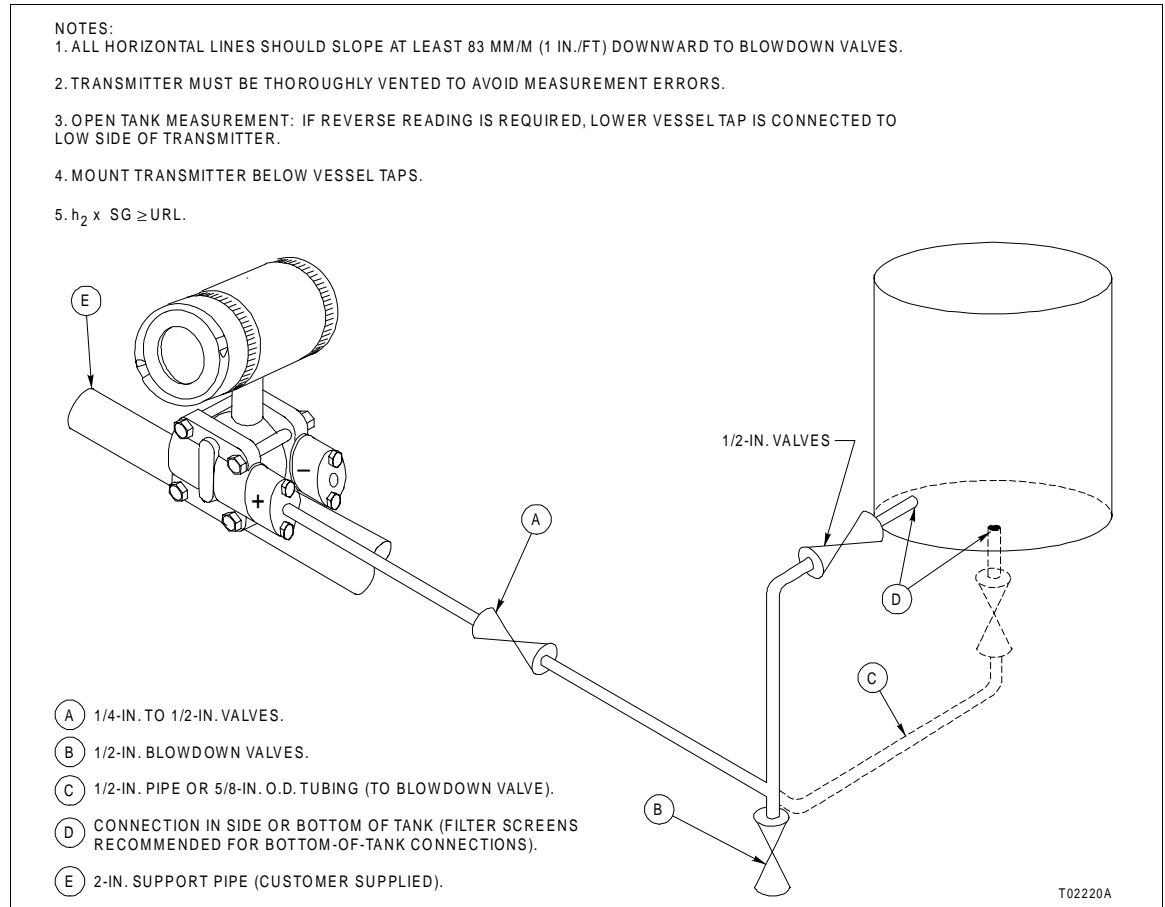

Figure 3-6. Connecting Piping for Open Tank Level Measurement
1. Refer to Figure 3-6 for a typical piping arrangement for open tank level measurements.
4. Observe the conventions outlined in Figure 3-6.